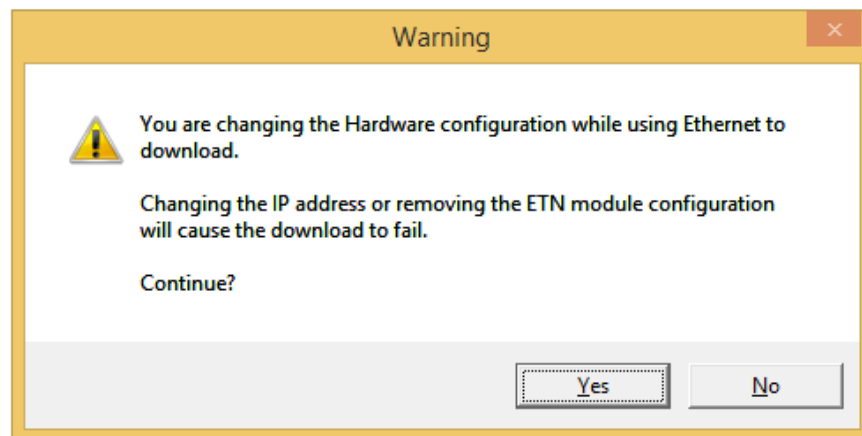

Figure 4.2 - I/O Configuration Download Warning
For this reason, when the Cscape user modifies the Hardware Configuration, and then starts to download it using CsCAN over Ethernet, Cscape issues a warning message, as shown in Figure 4.2.
- If the new Ethernet configuration specifies "**Get Settings From:**" CAN ID, make sure the IP Address, which will be built from the combination of the **IP Address** parameter and the OCS/RCS CAN Network ID, matches Cscape's **Target IP Address** (Figure 4.2).
- If the new Ethernet configuration specifies "**Get Settings From:**" OCS Register, make sure the OCS register indicated by the **IP Addr Register** parameter contains an IP Address, and that it matches Cscape's **Target IP Address** (Figure 4.2).